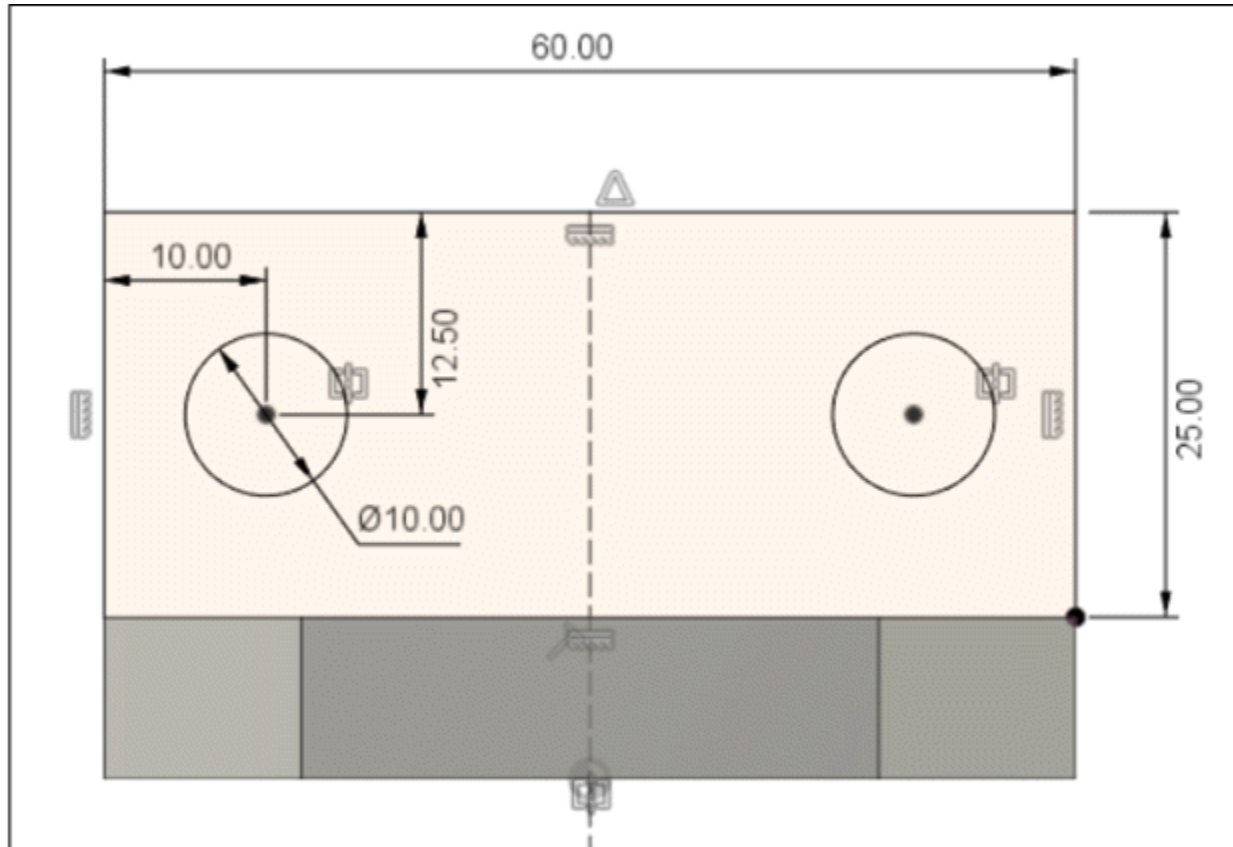

Figure-18. Creating the rectangle with holes
- Select the **2-Point Rectangle** tool from **Rectangle** cascading menu in the **CREATE** drop-down of **Toolbar**. Create a rectangle of dimensions **25** and **60** with two holes of diameter **10** as shown in Figure-18.